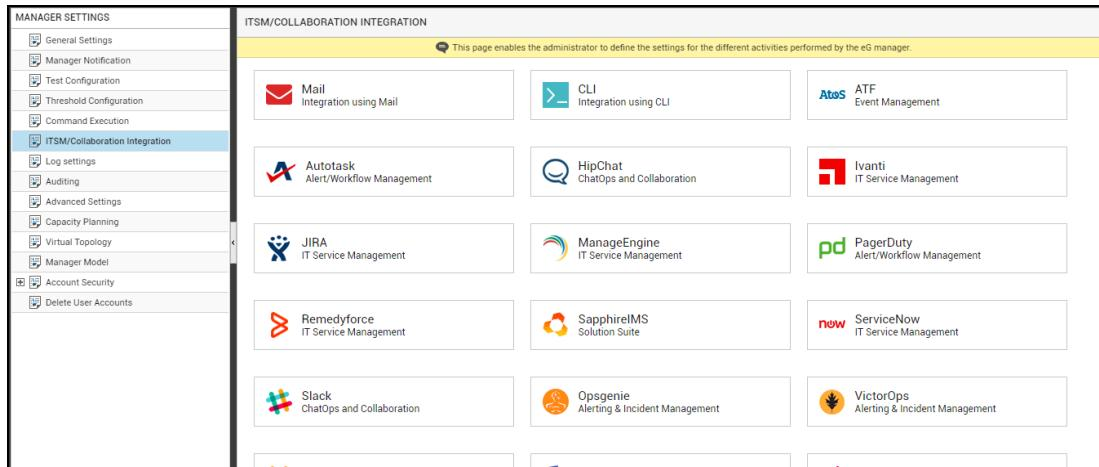
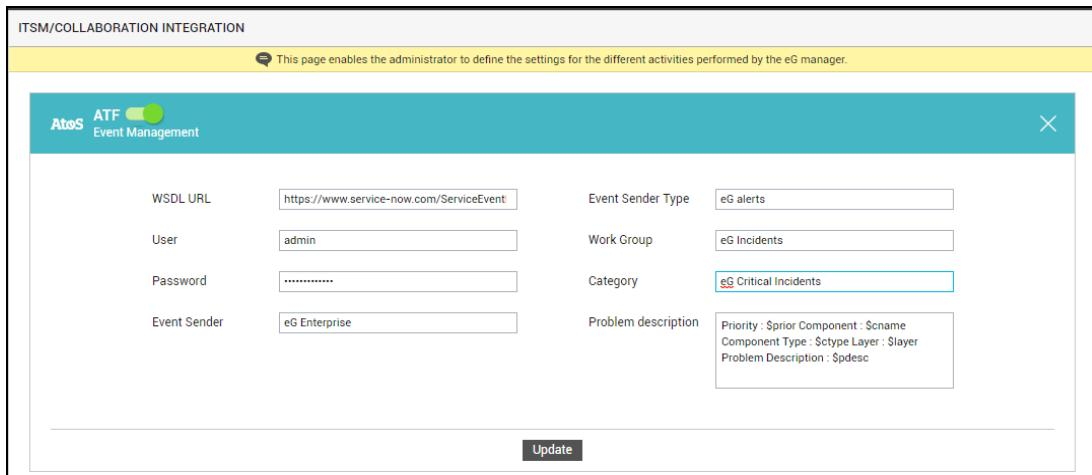

Figure 5.17: Viewing the ITSM/Collaboration tool options
Figure 5.18: Configuring integration with ATF
3. Figure 5.17 will then appear. From the **MANAGER SETTINGS** tree in the left panel of Figure 5.17, select the **ITSM/Collaboration Integration** node. The third-party ITSM/Collaboration tools that eG Enterprise can integrate with will be listed in the right panel.
4. Now, click on the **ATF** option in the right panel (see Figure 5.17). An **ATF** section will now appear in the right panel (see Figure 5.18).
5. To enable integration with ATF, first slide the **ATF** slider in Figure 5.18 to the right.
6. Then, specify the following in Figure 5.18: